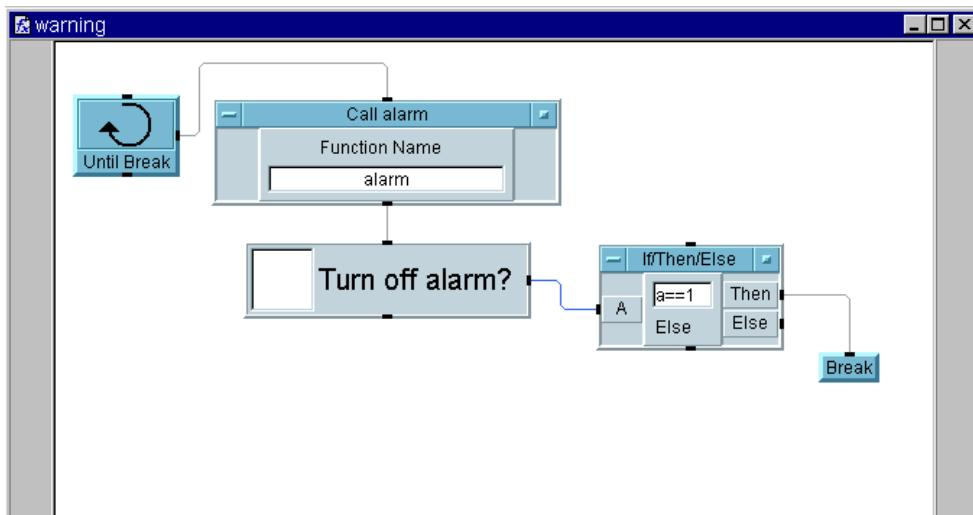

Figure 10-25. The Warning UserFunction (Detail View)
17. Select Flow \Rightarrow Repeat \Rightarrow Break and connect it to the Then output on the If/Then/Else object, as shown in Figure 10-25.